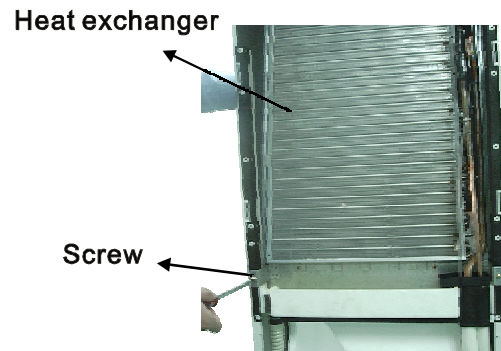

Fig 14
2.Loosen the screws of the heat exchanger and take out the heat exchanger.(Fig 14)